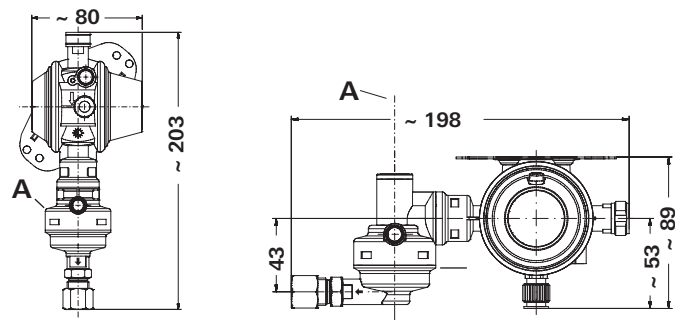

Figure 3
- Depending on the version, the MonoControl CS must be fitted to a stable wall in a vertical position or to the top of the gas cylinder box in a horizontal position. The **triggering element** (Figure 3 – A) must always be in a **vertical** position.